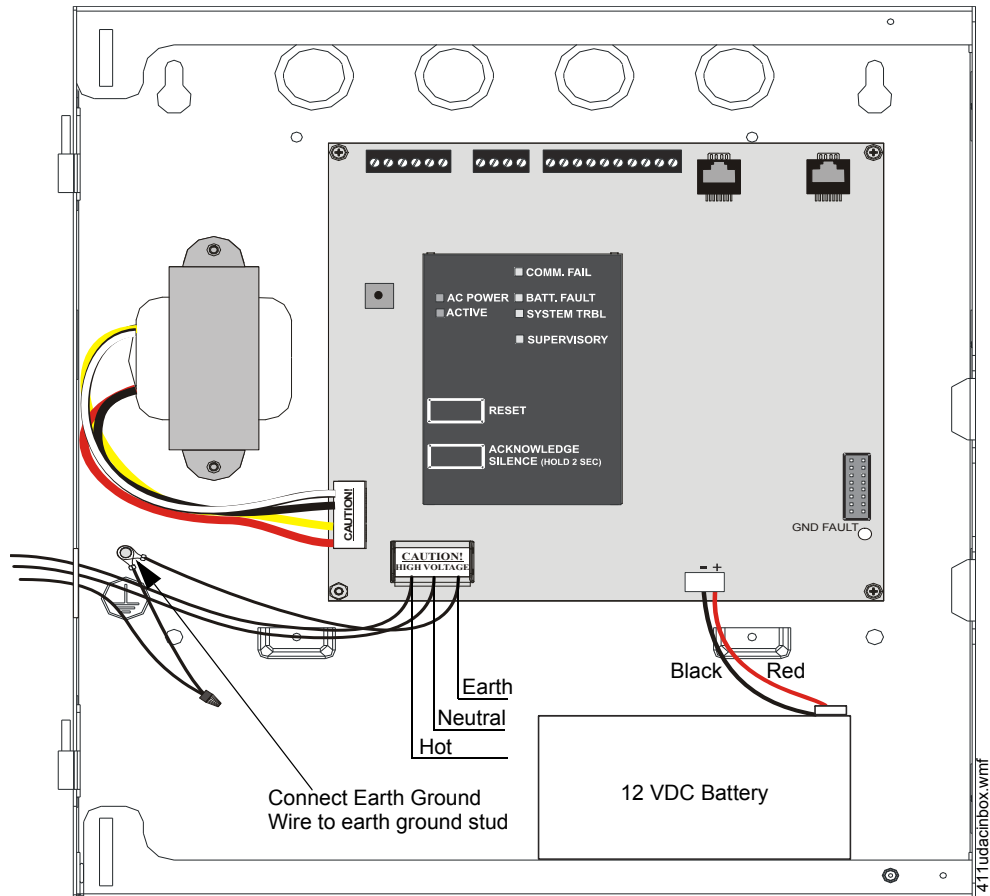
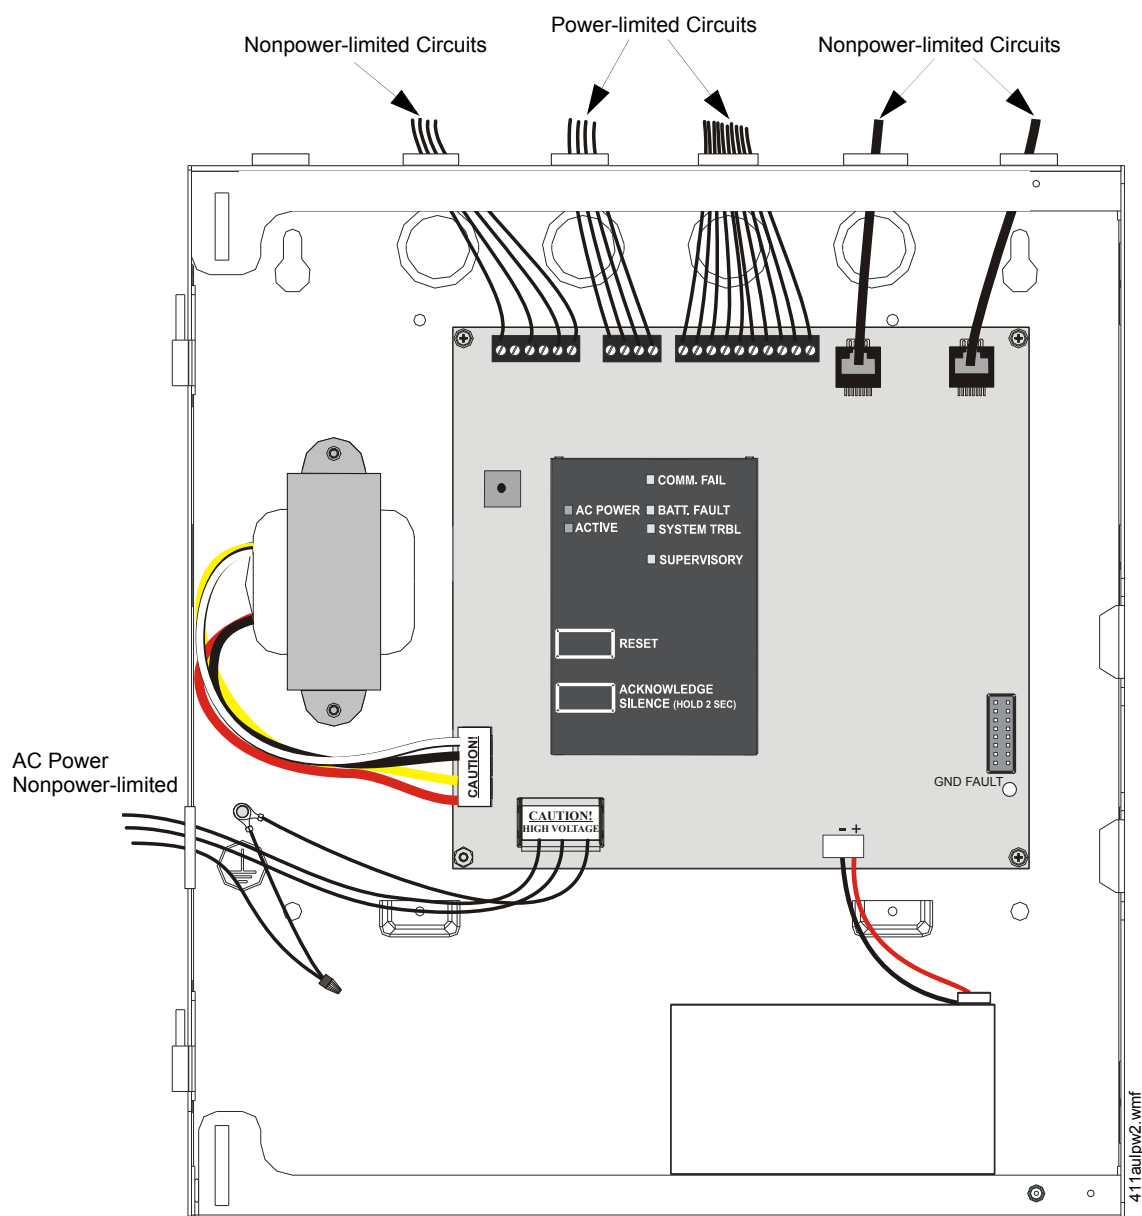

Figure 2.3 Operating Power Connections
Figure 2.11 Typical UL Power-limited Wiring Diagram
4. Plug the transformer connector into the main circuit board connector J4. The connector is keyed and can only be plugged-in one way. Refer to Figure 2.3 on page 21 and Figure 2.11 on page 29 for transformer connector location and AC power connections.